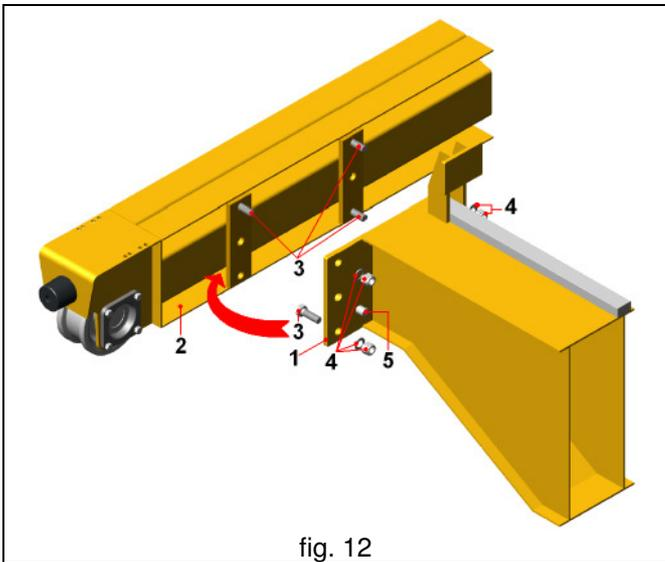

fig. 12
- **L = Beam connection in “lateral” connection** (fig. 12)
1. Set the girder alongside the beam, allowing the holes on the cross-plate (1) to match those on the beam (2);
2. Insert the screws (3), taking care to maintain the nuts and rings (4) on the outside, i.e. on the plate (1);
3. Screw on and set the nuts (4) without tightening them, to allow the insertion of the centring pins (5);